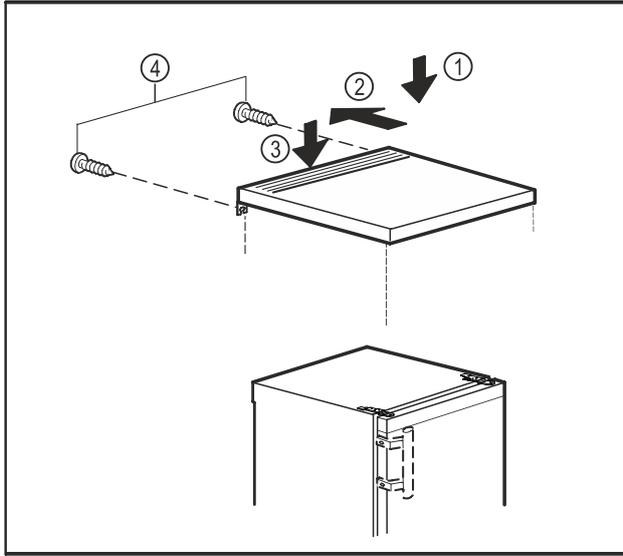

Fig. 11
- ▶ Place the tabletop on the appliance. Fig. 11 (1)
- ▶ Slide the tabletop backward. Fig. 11 (2)
- ▶ Press the tabletop down at the back. Fig. 11 (3)
- ▶ Tighten the screws on the rear side. Fig. 11 (4)